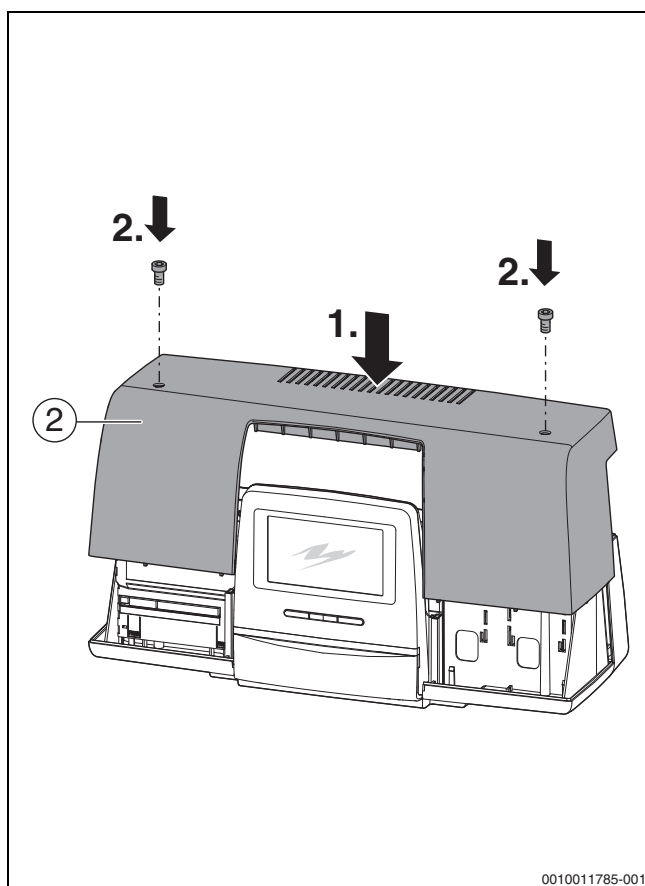

Fig. 36 Fit the cover hood to the control unit
In figure 36, page 31, the control unit is shown from the front.
- Mount the cover hood [2] on the control unit (→ Figure 36, page 31).